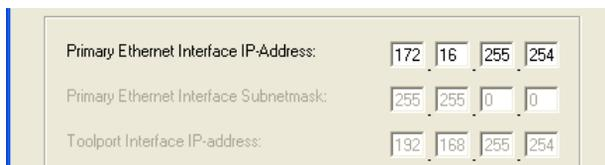

Figure 46. The IPConfig dialog box with factory default setting.
- Click **Connect** and then press the **Init** push-button on the Controller until the **Run LED** starts to blink. Wait about a minute until the default IP address appears, see Figure 46.